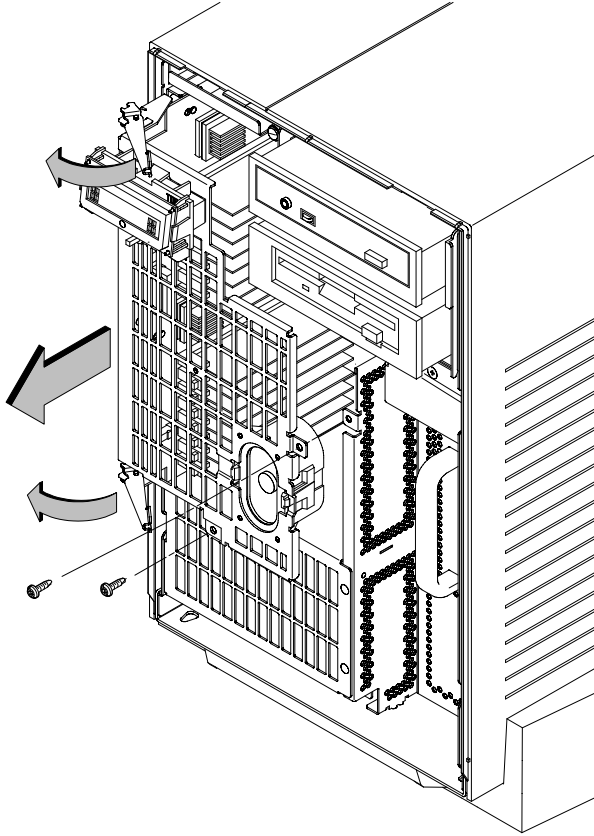

Figure 2. Removing the Tray Assembly
2. Pull the ejector handles on the left side, top and bottom of the tray assembly to release the board assembly from the internal connectors. Refer to Figure 2.